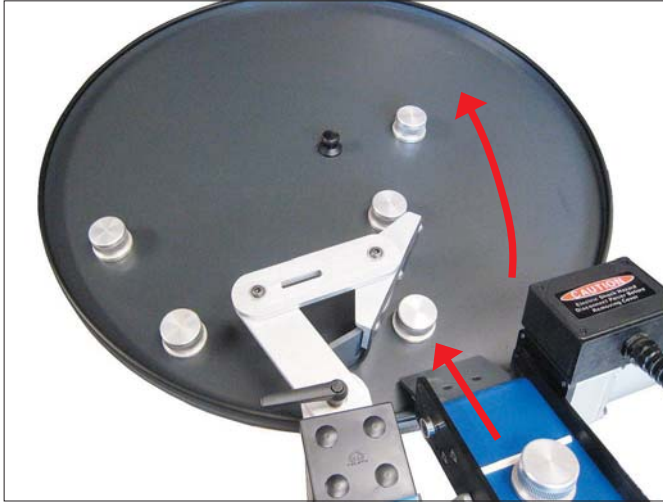

Fig. 17
4. Reposition the diverter arm on the table to accommodate product accumulation in the counterclockwise direction (review Fig. 17 on pg. 18 if needed)